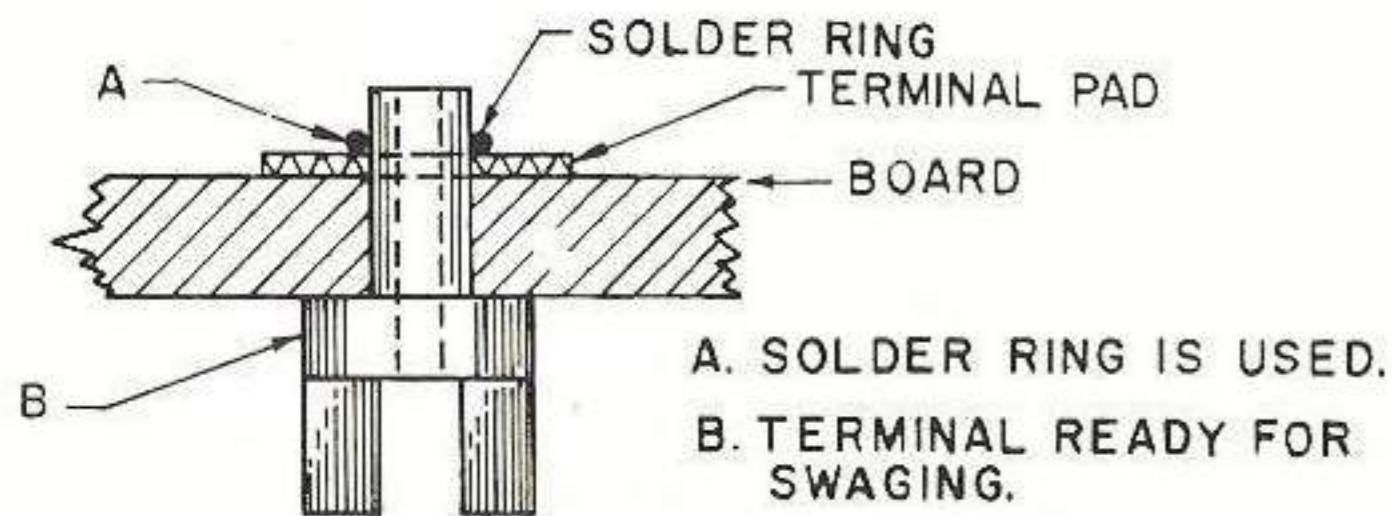

Figure 40. Terminal Before Swaging
c. Press the terminal shank through the board and align the terminal as shown in figure 40.